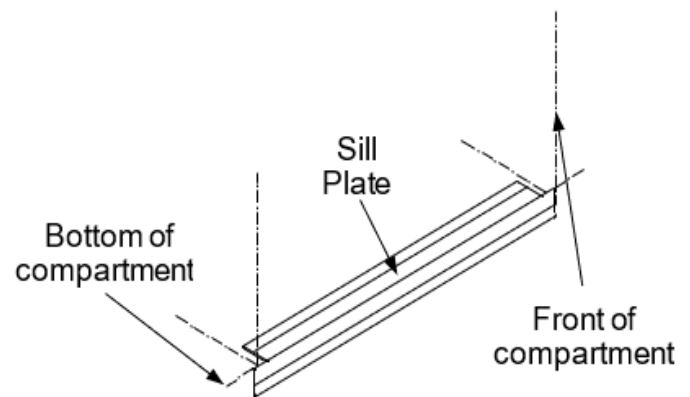

Fig. 3
- a) Place the sill plate in the center of the bottom compartment. The notches should be on the top as shown in Fig. 3.